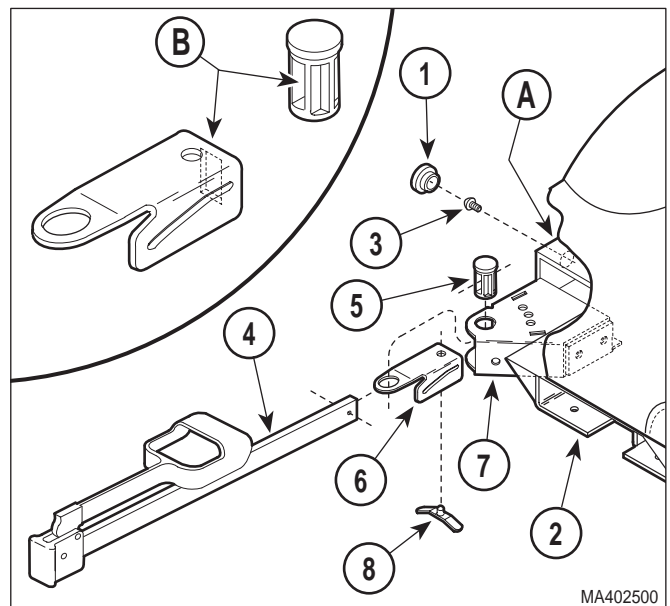

Figure 4-32. Stirrup Assembly And Components Removal / Installation
- (1) Remove hole plug (1, Figure 4-32) from access hole in seat weldment (2).
- (2) Insert screwdriver in access hole and remove screw (3) from stirrup assembly (4).